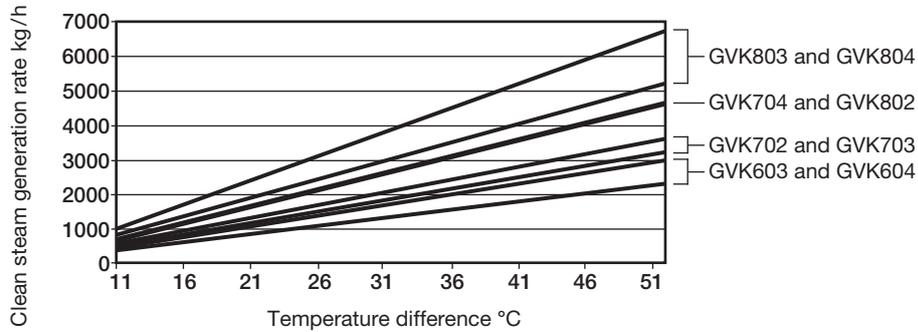
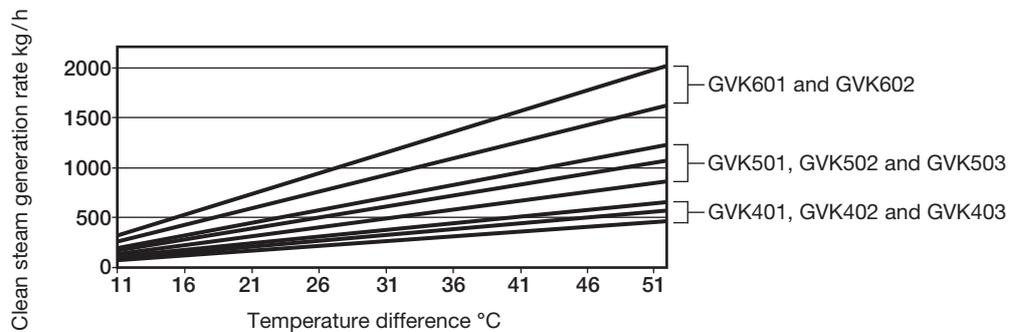

Fig. 1
Fig. 2
- On Figure 1 or Figure 2, draw a vertical line upwards from the effective difference of temperature (on the x-axis) to intersect the modified clean steam flowrate (on the y-axis).
- Choose the nearest model above the point of intersection on Figure 1 or Figure 2.
- On Figure 1 or Figure 2, draw a vertical line upwards from 27°C on the temperature difference scale to intersect 1110 kg/h on the generation rate line – the choice is between GVK602 and GVK603.